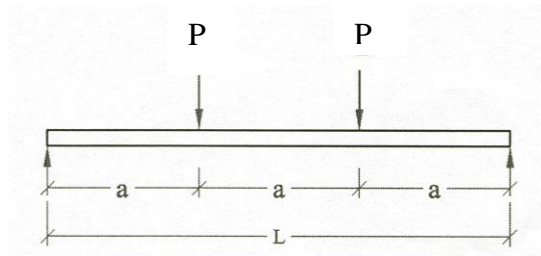

Figure 12/Gambarajah 12
- (ii) The uniformly distributive loads were replaced with two point words shown in **Figure 12**, determine the: